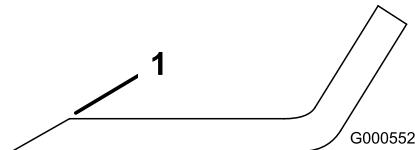

**Figure 45**
Hold the blade end using a rag or thickly-padded glove. Remove the blade bolt, curved washer, blade stiffener, and blade from the spindle shaft (Figure 45).
1. Install the blade onto the spindle shaft (Figure 45).
2. Install the blade stiffener, the curved washer (cupped side toward the blade) and the blade bolt (Figure 45).